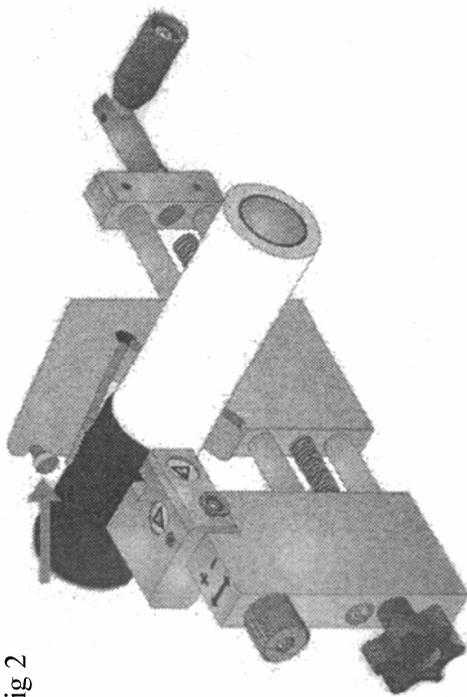

Fig 2
2.1.3 Using the Abra file with medium pressure, file evenly around the semi-conducting screen until the conductor insulation just shows – Fig 2.
- 3.1.5 Position the cutter at the front edge of the screen and set the depth of cut using the small metal knob marked by a green arrow, as shown in Fig 2 of GR2D 6.28.3. The adjustment is anticlockwise to increase the depth of cut, clockwise to decrease. Each click is 0.1mm. If necessary, practice on a scrap piece of cable to obtain the correct depth setting.
- 3.2 Take one end of the braid and expand to the width of one core, once expanded 20mm from the end of the expanded braid open a hole in one side of the expanded braid, this hole should be large enough for the core to pass through the hole. See figure 2 of GR2D 6.29.2.